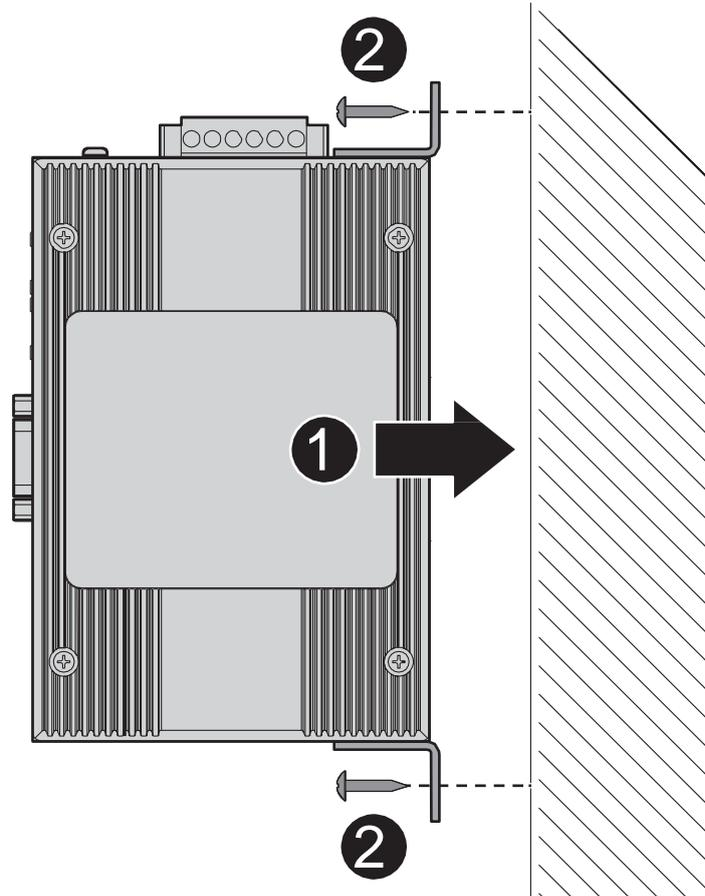

Figure 3.5
12. Install the wall mount plate on the screws and slide it forward to lock in place, see the following figure – *Figure 3.5*.